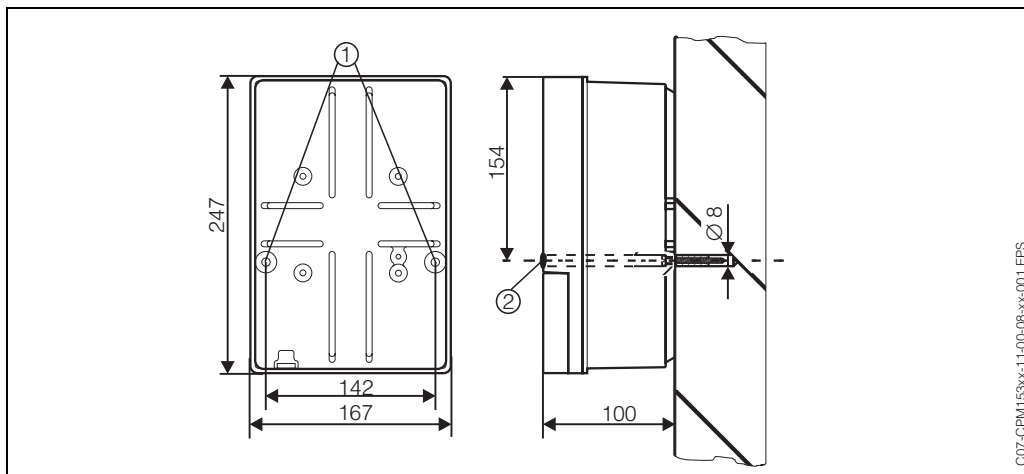

Fig. 2: Dimensions for wall mounting: Fixing screw: dia. 6 mm
1. Prepare drill holes acc. to fig. 2
2. Push the two fixing screws from the front through the appropriate fixing bores ①.
4. Cover the drill holes with the plastic cover caps ②.